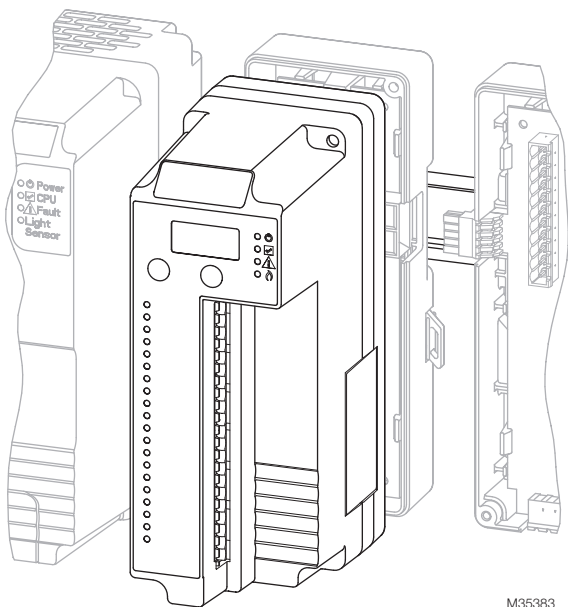

Fig. 3. Installing the UV Shutter-Check Flame Amplifier on the Sub-Base Module.
3. Install the Flame Amplifier on the Sub-Base. See Fig. 3.